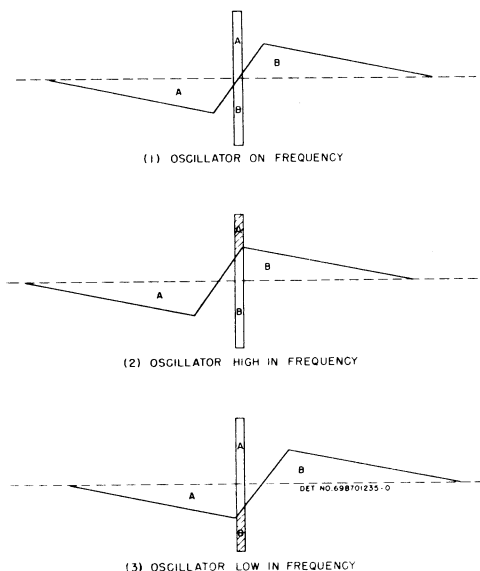

FIGURE 21. WAVEFORMS AT PHASE DETECTOR
in the center of the retrace time. See Figure 21(1). The sync pulses have an amplitude of from 6 to 8 volts while the sawtooth amplitude is about two volts. The RC time constant in the pulse input circuit to the diodes is long enough to maintain an average pulse voltage of 6 to 8 volts for two or three horizontal lines, which means that in the "on frequency" condition shown in Figure 21(1), the diodes conduct only on the pulses and since these are equal in amplitude and develop voltages of opposite polarity across R-83 in the first multivibrator grid circuit as shown in Figure 18, no control voltage is applied to the grid of V-16.
If the oscillator tends to increase in frequency, with respect to the sync pulses, the phase relationship shown in Figure 21(2) exists at the diodes. The phase of the sawtooth has now shifted so that at the same instant that the pulse is applied to the plate of diode "A" the positive saw is also applied to its cathode, so that only the shaded portion of the pulse causes conduction of diode "A". Diode "B", however, still conducts on the total amplitude of the negative pulse applied to its cathode aided by the positive saw applied to its plate at the same time. Since current flow thru diode "A" makes the